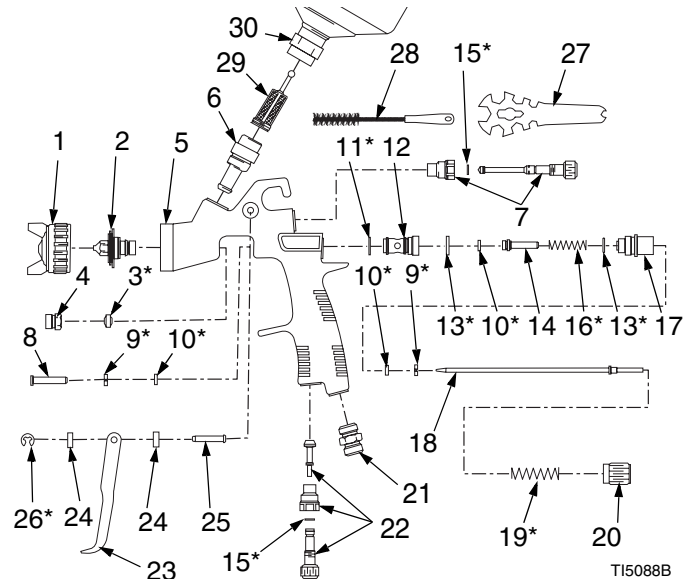

FIG. 7
5. Remove cup (30) and filter (29) and clean them. FIG. 7.
6. Remove air cap (1) and nozzle (2) as instructed on page 5 and soak them in compatible solvent.
1. Remove retaining ring (26), gaskets (24), pin (25) and trigger (23). FIG. 7.
2. Remove packing nut (4) and packing (3).
3. Remove air valve shaft (8).
4. Remove fitting (17) with Allen wrench (FX100: 8 mm, FX200/300: 9 mm).
5. Remove o-rings (13, 10) and holder (9) from fitting (17).
6. Remove spring (16), piston (14), and o-ring (10).
7. Remove air valve seat (12) with o-ring (13) and gasket (11).
8. Remove o-ring (10) and holder (9).
10. Reassemble in reverse order. Lubricate needle and o-rings. Tighten o-ring packing holders (9) until smooth movement of the valve air shaft (8) and air valve piston (14) is achieved. **DO NOT** over tighten the o-ring packing holders (9) as a sluggish needle or sticky trigger condition will result. Be sure to trigger gun when installing nozzle (2).